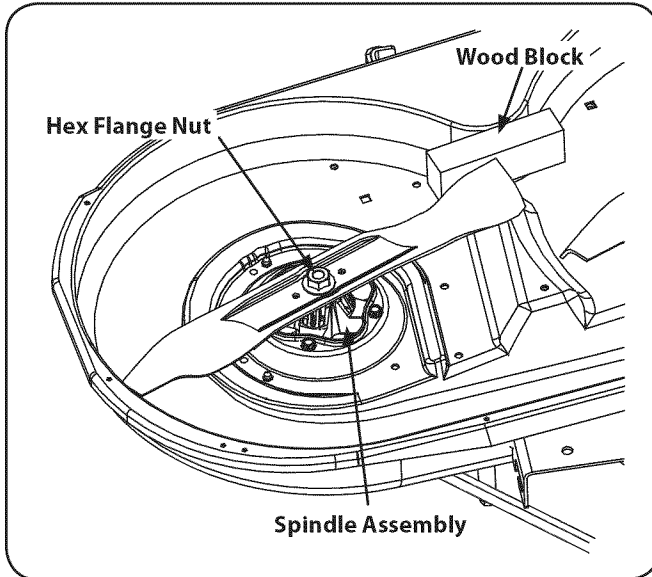

Figure 7-7
- Use a  $\frac{1}{16}$ " wrench to hold the hex nut on top of the spindle assembly when loosening the hex nut securing the blade. A block of wood may be placed between the deck housing and the cutting edge of the blade to help in breaking loose the hex nut securing the blade. See Fig. 7-7.